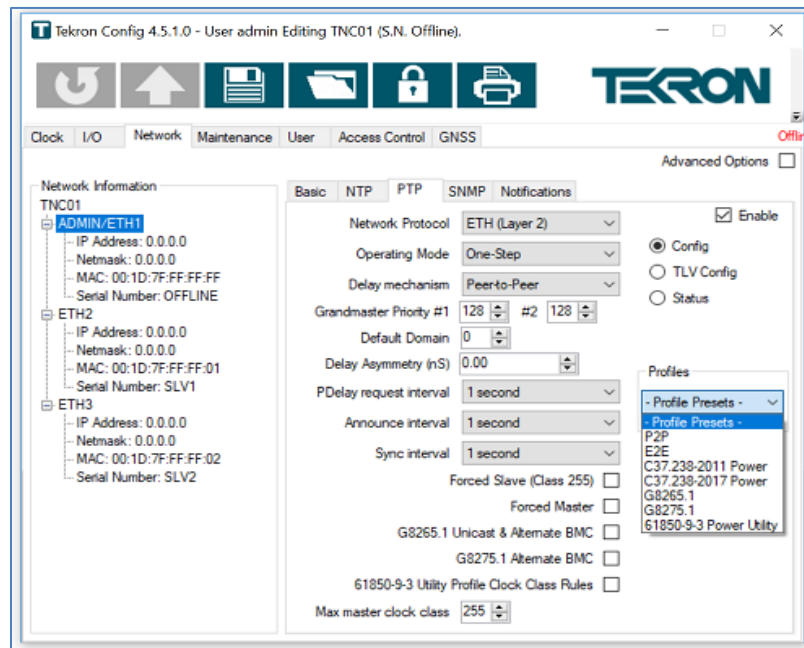

Figure 43- PTP sub-tab
**“61850-9-3 Utility Profile Clock Class Rules”:** Check this box to use 61850-9-3 Power Utility Profile setting. Selecting the 61850-9-3 Profile as shown in Figure 43, automatically selects this option.